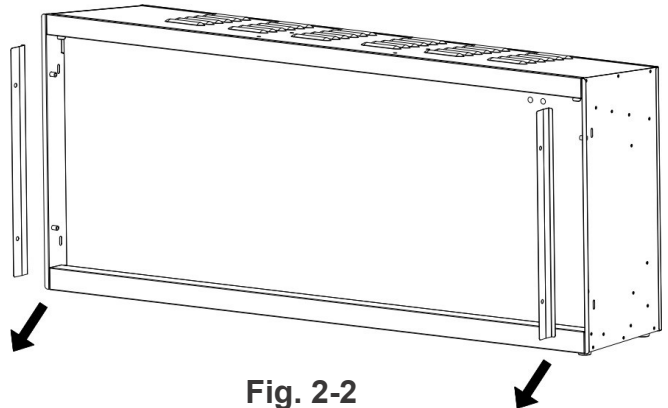
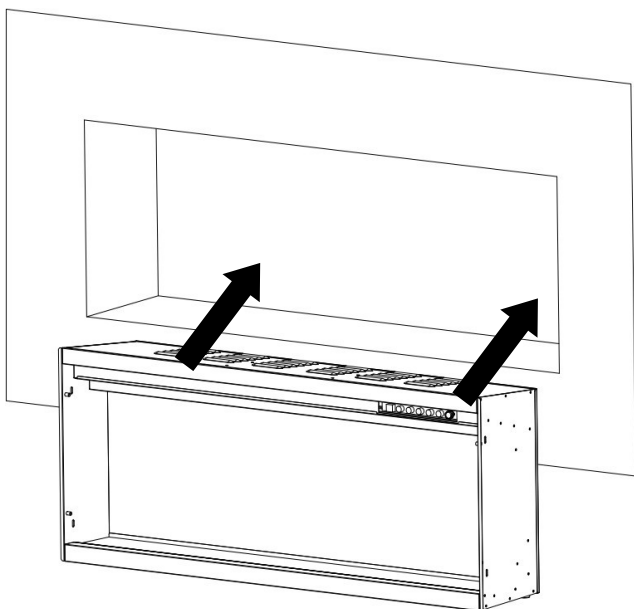

Fig. 2-2
Fig. 3-1
- B. Carefully take the metal bracket(s) away from the appliance. Place it face down on a soft, non-abrasive surface. (Fig. 2-2)
B. Insert the fireplace into the rough-in frame and then secure it by installing **4** wood screws (**B**) through the holes (Fig. 3-1, Fig 2-2).